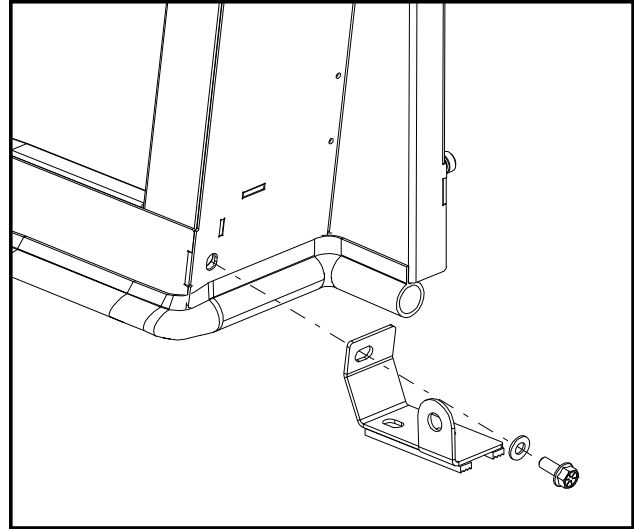

Fig. 4.4 (fender bracket installation - left)
4.4 Using hardware listed below, bolt the left fender bracket to the left sideframe/rear leg. Making sure to fully tighten hardware down. See fig. 4.4. Repeat the process for the right fender bracket.